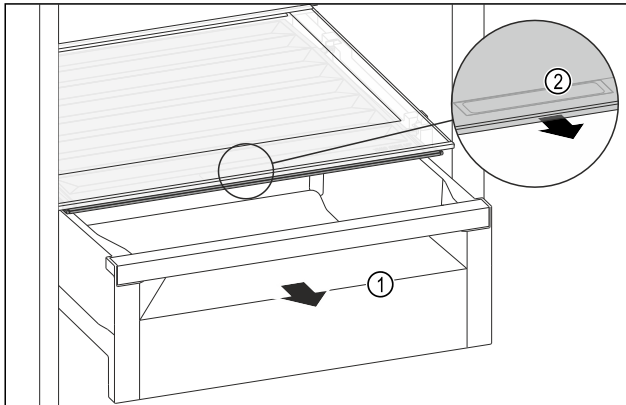

Fig. 110
- ▶ Pull out the drawer Fig. 110 (1).
- ▶ Grasp the recessed grip Fig. 110 (2) on the compartment lid and pull the compartment lid forwards at the same time.